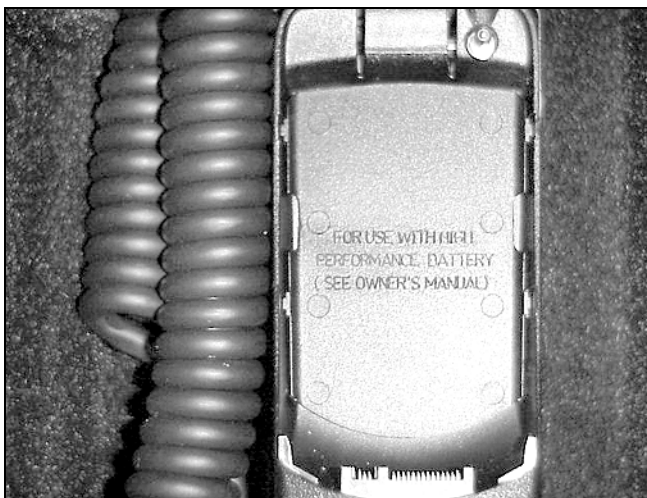

Figure 15
14. Install the battery insert plate marked “FOR USE WITH HIGH PERFORMANCE BATTERY” when using the high performance battery (800 mAh) with the telephone (Figure 15).
**Note:** The embossed text on the installed battery insert plate must face up as in Figure 15.